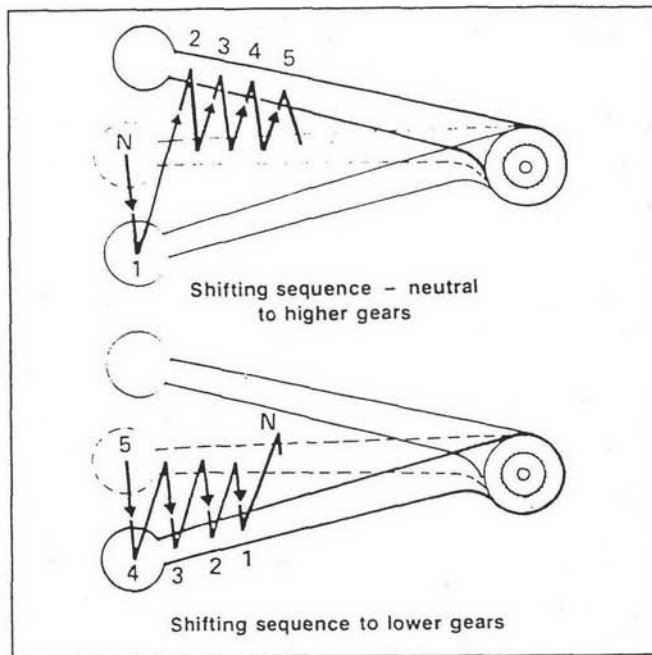

Figure 2-39. Shifting Sequence
1. To start moving with vehicle upright and engine idling, pull the clutch lever to disengage clutch fully. See Figure 2-39. Push shifter lever down firmly, but gently, to end of its travel to engage first gear. Then release the clutch lever slowly to engage the clutch and at the same time, open throttle gradually.